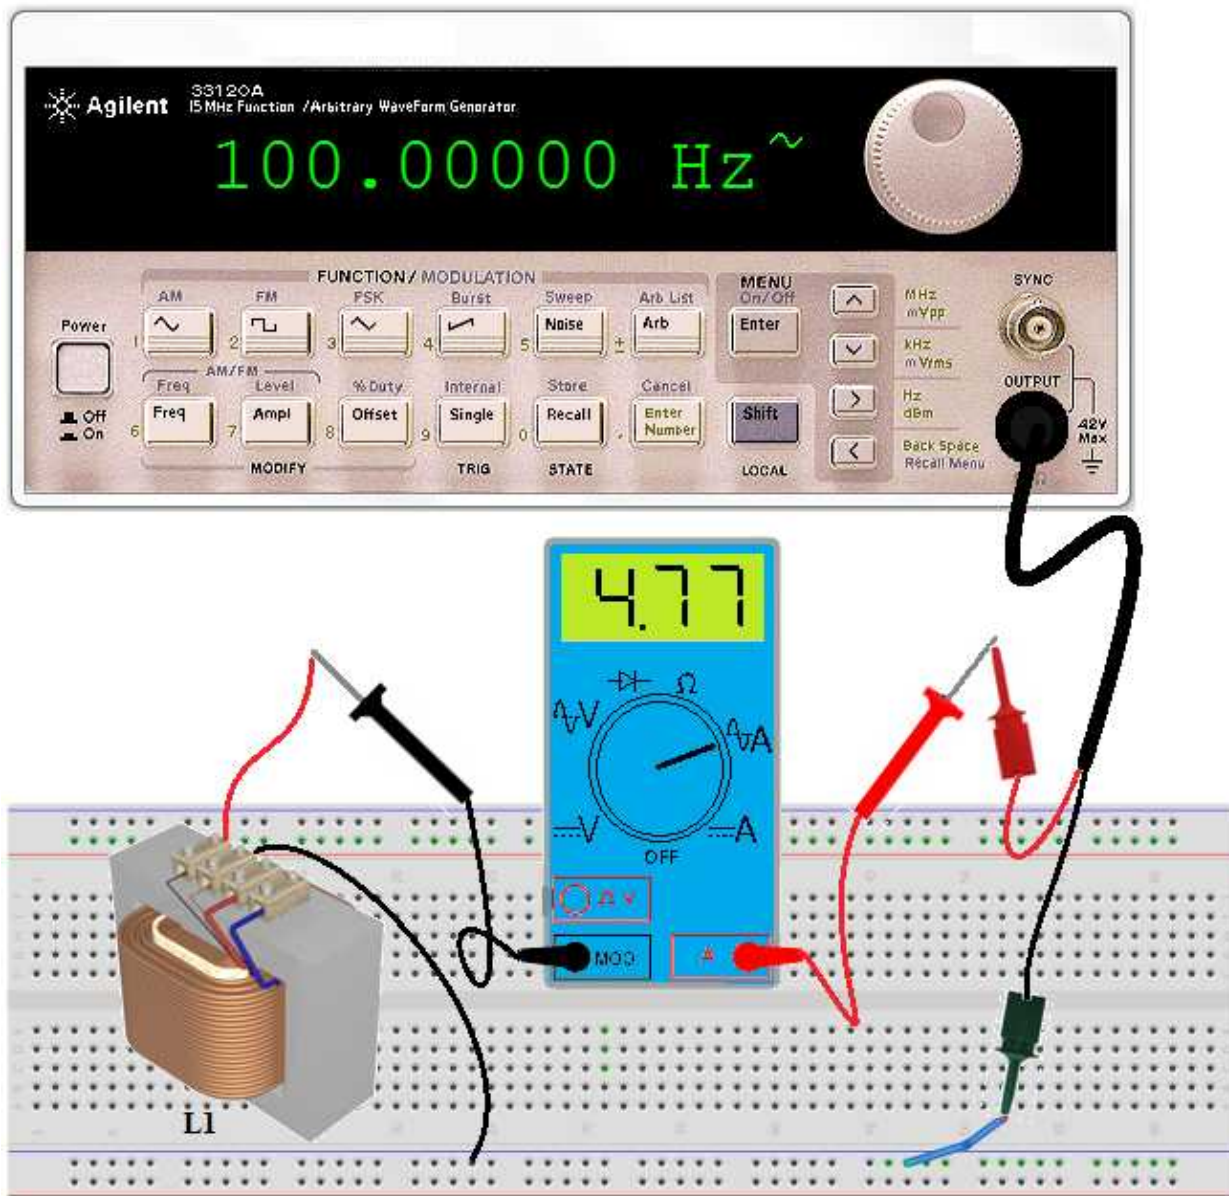

Figure 2-62: Behavior of an inductor on changing frequency while voltage is kept constant, circuit connection
2. Connect the circuit as shown in the figure 2-62 (make sure the ammeter is in series with the transformer's inductance)